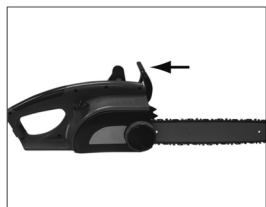
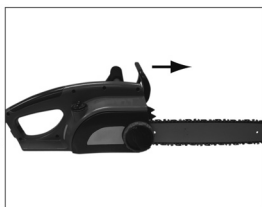

Fig. 9A
Fig. 9B
is to reduce the possibility of injury due to kickback. The chain brake cannot, however, provide the measure of intended protection if the saw is carelessly operated. The chain brake is disengaged (chain can move) when the brake is pulled back and locked. This is the normal running position (Fig. 9A). The chain brake is engaged (chain cannot move) when the brake is in forward position (Fig. 9B).
- Make sure the chain brake is disengaged (Fig. 9A).